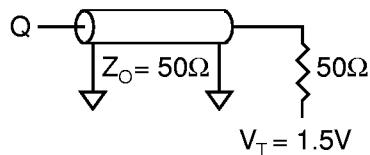
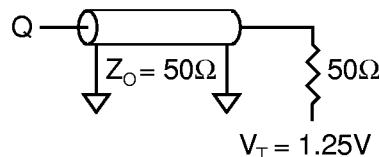

Figure 1
Figure 3
- Test conditions as specified with the output loading shown in Figure 1 for 3.3V I/O ($V_{DDQ} = +3.3\text{V} \pm 0.3\text{V}/-0.165\text{V}$) and Figure 3 for 2.5V I/O ($V_{DDQ} = +2.5\text{V} \pm 0.4\text{V}/-0.125\text{V}$) unless otherwise noted.
Output load	See Figures 1 and 2
Output load	See Figures 3 and 4